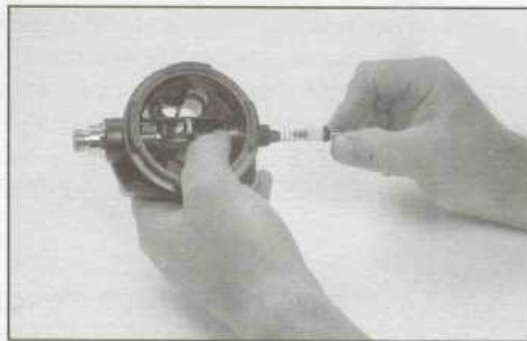

FIG 6-15
17. Once the adjustment tube flange is seated, it is important to ensure the o-ring is also properly seated. To do this, press the adjustment tube straight back inside the case, causing it to mate over the poppet shaft and locking nut. Inspect the o-ring (26) to ensure that it is correctly seated in its groove, and then press back again to ensure the flange is seated flush inside the case.
18. Check to ensure the threads of the piston spring follower (30) are not stripped or damaged from previous use. Lubricate and install the stem o-ring (32) onto the stem (31). Lightly lubricate the stem threads and install the piston spring follower with the recessed end facing out, remembering that it is a left hand thread. Thread the piston spring follower all the way in (counter-clockwise as you view it) to unload the valve mechanism. Insert the secondary spring (29) into the recessed end of the piston spring follower.
19. Insert the piston (28) into the adjustment tube, with the flat end making contact with the poppet shaft (7). Next, install the stem, follower & spring assembly into the adjustment tube. Refer to figure 6-15 noting the method of holding the adjustment tube flange with your thumb while pushing the stem into the tube to seat the stem o-ring (32).